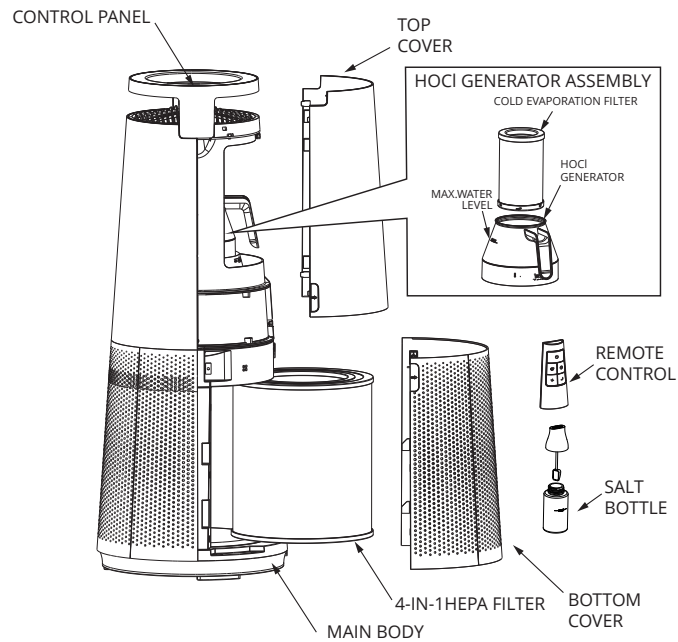

Figure 1. Major Components
Please refer to Figure 1 for the product overview.
1. Remove the unit from the box and check that all the items shown in Figure 1 are included. It is a good idea to retain the packaging for storing the unit or in the event it must be shipped back for service.